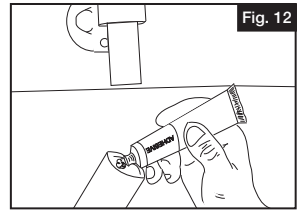

Fig. 12
2. Apply aluminum adhesive and slide the internal joiner half way into the vinyl lineal (Fig. 12).
- 2.** Once cuts have been completed and loop is ready to install, attach to Handrail system using a straight or adjustable joiner following the instructions outlined in this guide (Fig. 12, 13, 14, 15).